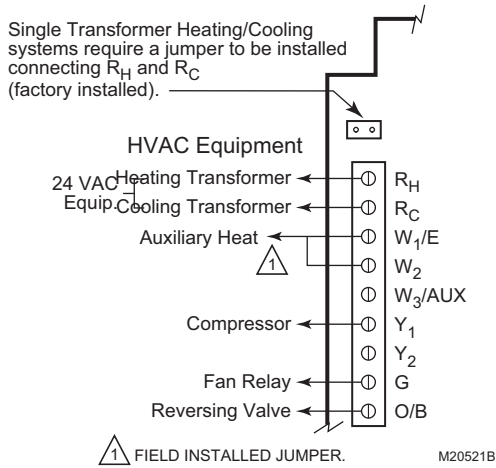

Fig. 17. Wiring single-stage heat pump with auxiliary heat.
- Do not connect W3/AUX. See Fig. 17.